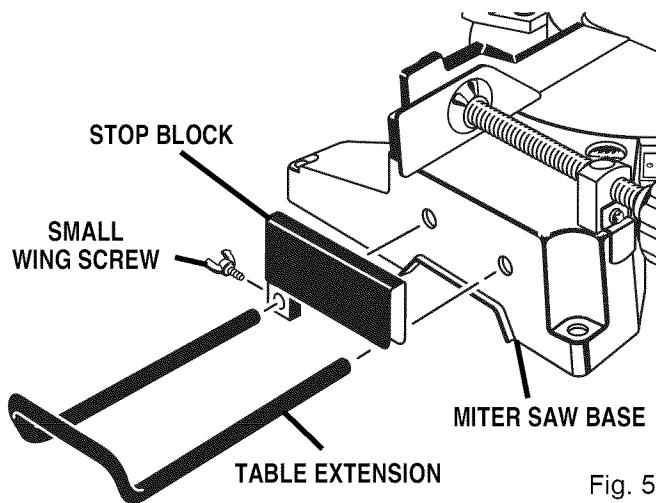

Fig. 5
See Figures 5 and 6.
- Slide the stop block on the back arm of either table extension, then insert the table extension into the saw base. See *Figure 5*.
- Use the small wing screw to secure the stop block to the table extension. See *Figure 5*.